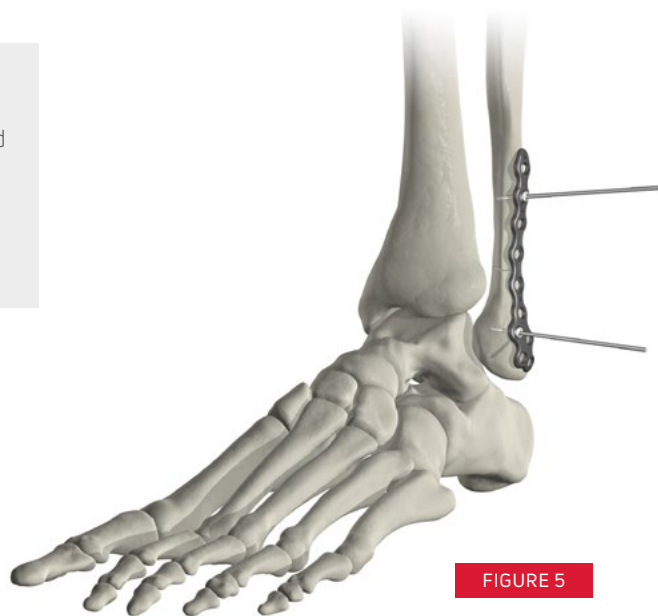

FIGURE 5
2. Select the appropriately sized lateral fibula plate for the fracture type and size. The symmetric lateral fibula plate is intended to sit further distally than the non-symmetric lateral fibula plate. Temporarily fixate the plate to the lateral fibula by placing 1-2 Olive Wires or K-wires in the plate's screw holes or temporary fixation holes, per surgeon preference (**FIGURE 5**). Confirm plate placement using fluoroscopy.